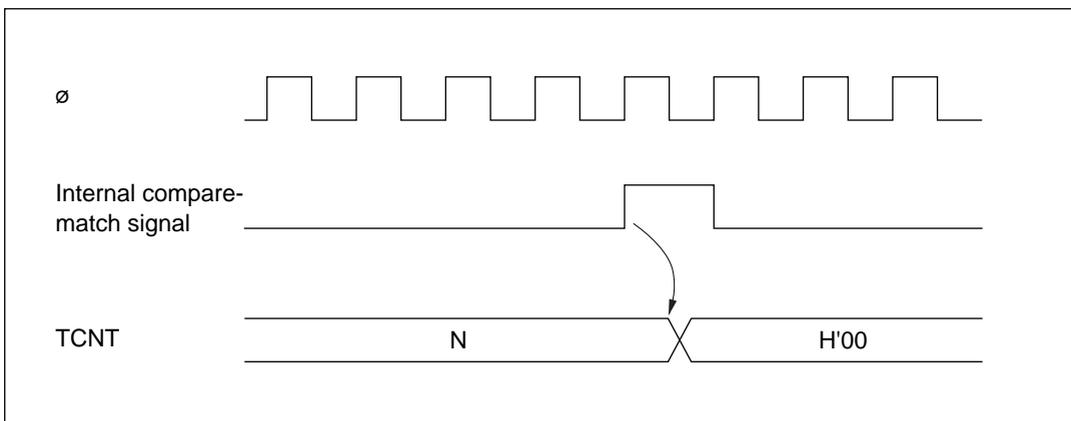

Figure 9-6 Timing of Compare-Match Clear
3. Timing of Compare-Match Clear: Depending on the CCLR1 and CCLR0 bits in TCR, the timer counter can be cleared when compare-match A or B occurs. Figure 9-6 shows the timing of this operation.